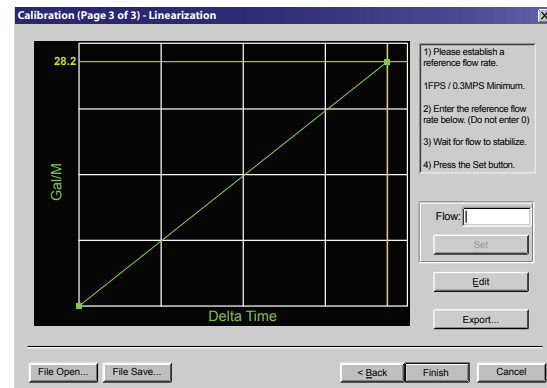

Figure 15: Calibration points editor
3. On the pop-up screen, click **Next** twice to get to *Page 3 of 3*. See *Figure 15*.
9. The display will return to *Page 3 of 3*. Click **Finish**. See *Figure 15*.